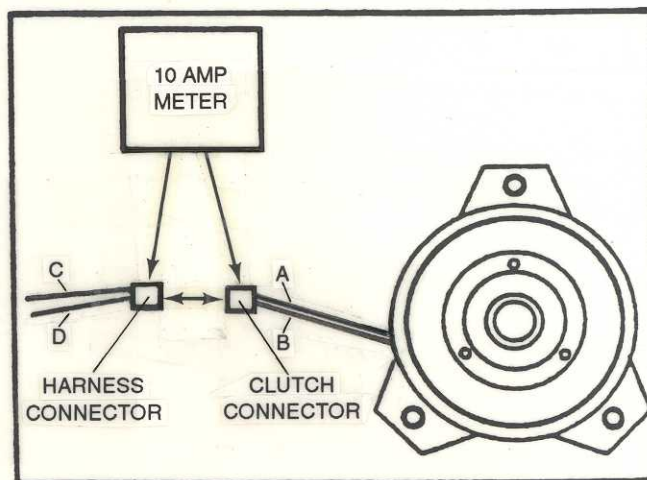

FIG. 2 - CLUTCH CURRENT DRAW
- 2: Refer to Figure 2. Use an AMP meter with a 10 AMP scale. Connect one meter lead to clutch connector wire "A" and connect the other meter lead to wire "C" in the harness connector.